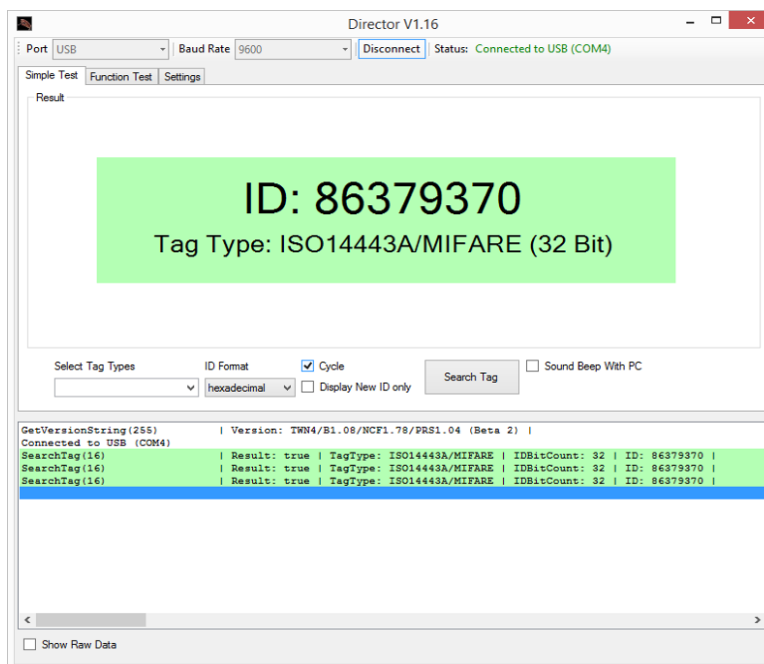

Figure 2.5: Reading Card IDs with Director Software
- Now just place a transponder near the antenna, and the Director software will print the UID out in the log window, as shown on Figure 2.5.